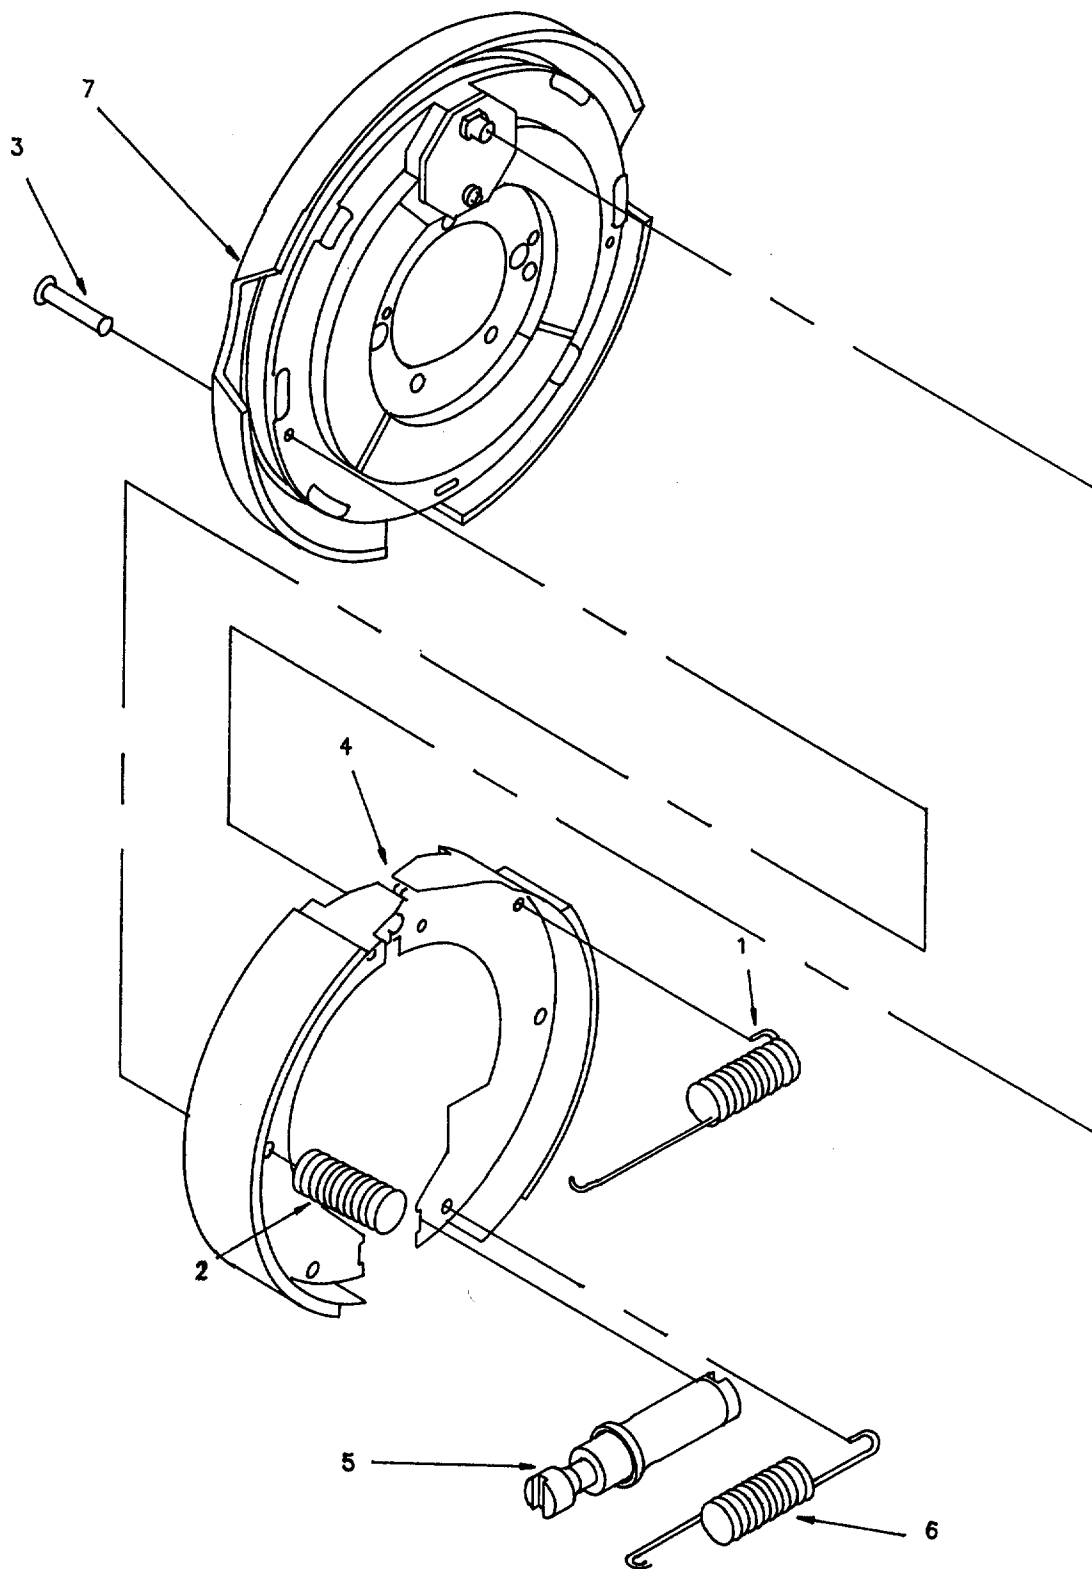

Figure 4-30. Brake Assembly.
(1) Inspect brake shoe kit (4, Figure 4-30) for wear or broken and missing parts.